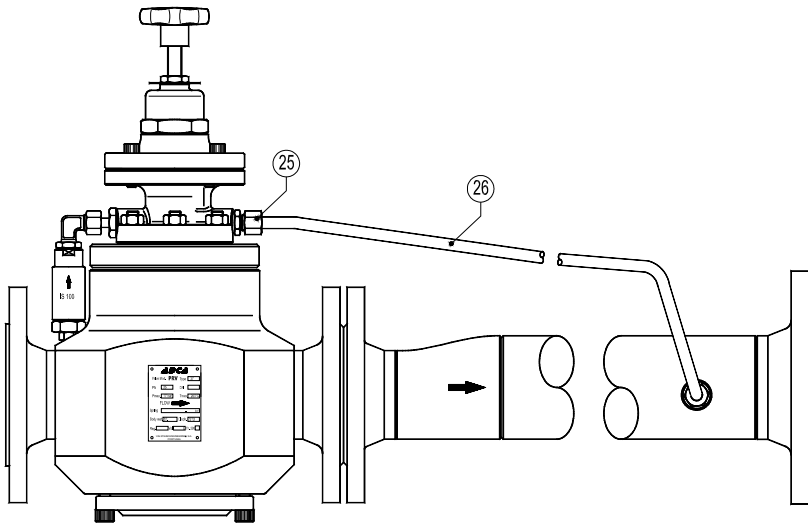

Fig.4
**PRV 47 Standard for steam, compressed air or gases (Fig.4)**